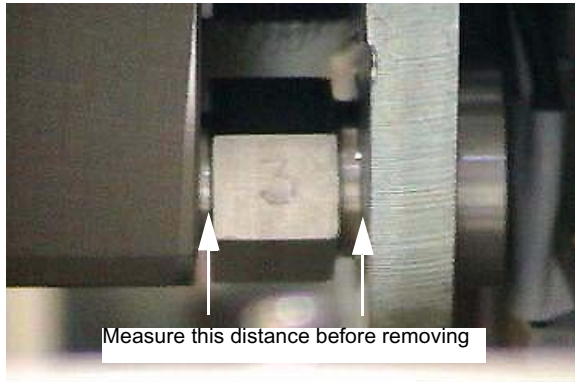

Figure 1-18 DCS Detector BOW Adjuster
- b.) Before removing the adjuster, carefully measure the distance from the Detector plate to the head of the adjuster. See Figure 1-18. The nominal height of the end BOW Adjusters is 18.95mm, and for the center it is 9.45mm.